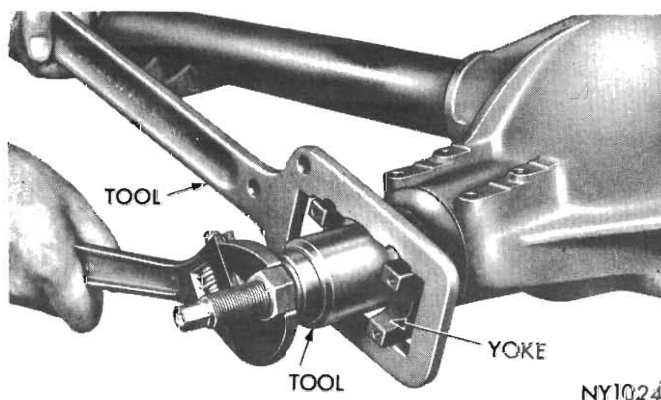

Fig. 28 - Installing pinion yoke using Tools E3C10L and E3C10B.
(8) Install the yoke, using yoke installing Tool E3C10B and holding tool E3C10L (*see Fig. 28*).
(9) Remove tools and install washer (cupped side toward pinion head) and nut. Tighten nut to 240 lbs.-ft. torque (minimum).